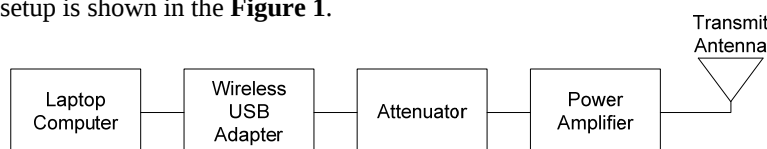

Figure 1 - Basic Test Setup
6. A basic test setup is shown in the **Figure 1**.